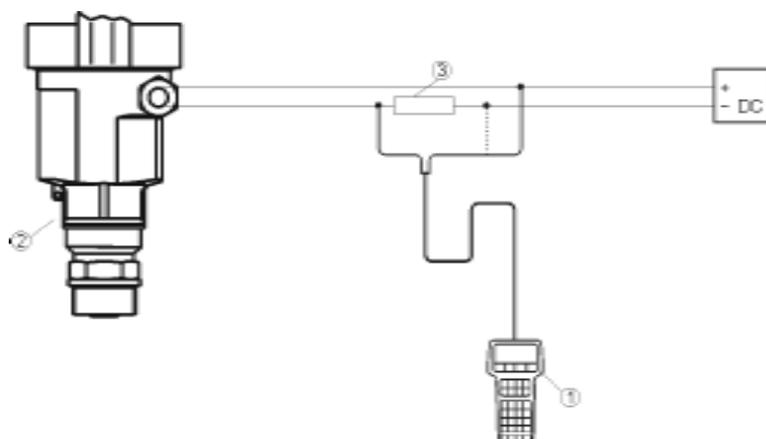

Fig.11
4.2.2 Connection by HART programmer (fig.11)